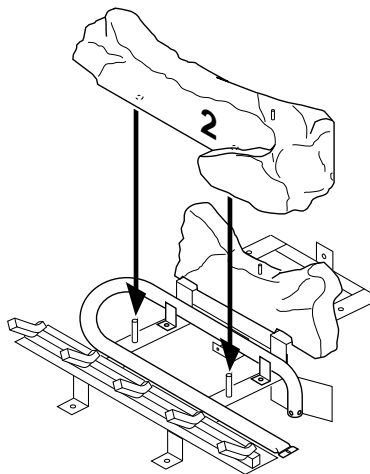

Figure 48 - Installing Log No. 2
2. Rest log #2 (large front log) on the pins on the front part of the grate (see Figure 48).